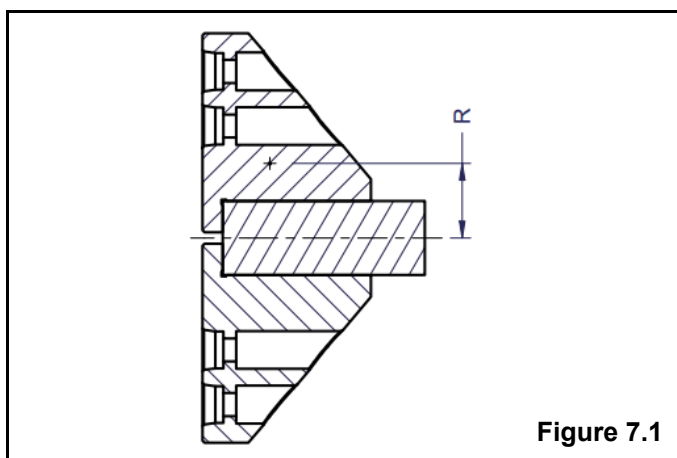

Figure 7.1
5. For external clamping applications, the mass of the top jaws should be reduced as much as possible to minimize the effects of centrifugal force. It is especially important to reduce weight at the largest radius. Refer to Figure 7.1.